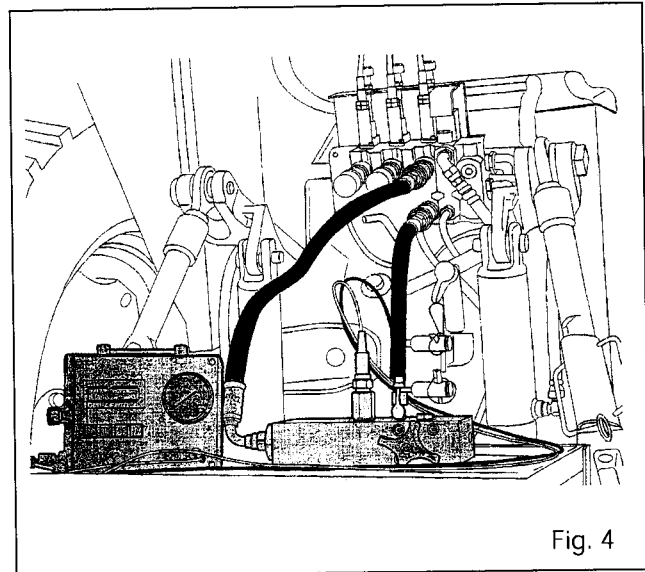

Fig. 4
- Connect a flowmeter onto an auxiliary spool valve (Fig. 4) to obtain **Q1**.
4. Adjusting the auxiliary spool valves flowrate controller (1)
- Connect the flowmeter onto a spool valve (Fig. 4) to obtain **Q2**.
**Hydraulics - Closed centre****5. Auxiliary spool valve with automatic return to neutral (Fig. 4)**